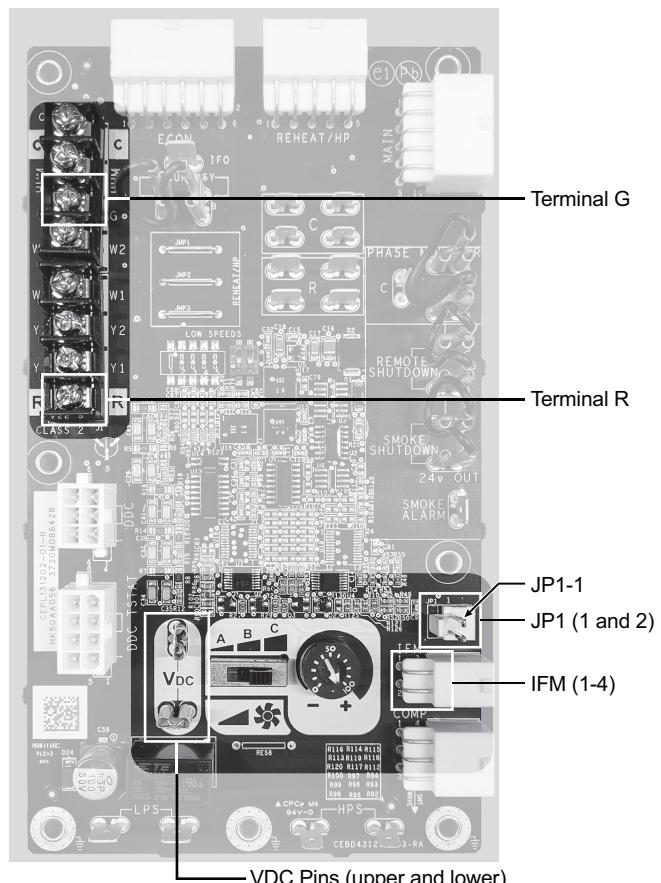

Fig. 12 – Testing Locations on Unit Control Board (UCB)
9. Using a jumper wire from unit control terminals R to G, engage motor operation. See Fig. 12.
10. Verify control signal from user speed selection switch by placing voltmeter taps in provided terminals marked VDC. Signal should be between 3.8 vdc and 10.3 vdc. See Fig. 12.